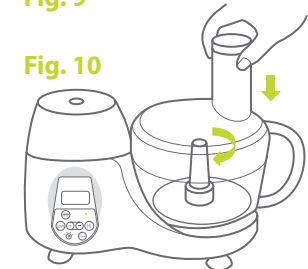

Fig. 10
4. Holding the cover by the feed tube fit the cover by rotating clockwise firmly until the cover bowl and the base unit interlock. (Fig.10)